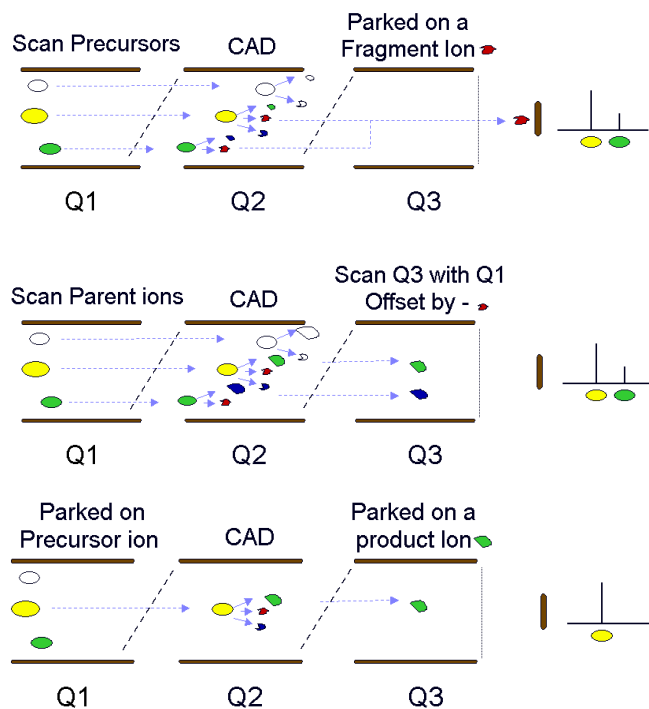

Figure 4. Triple Quadrupole Scan Types. Top – Precursor Ion scan. Middle – Neutral Loss scan. Bottom – MRM scan.
The triple quadrupole functionality of this instrument allows analyte quantitation to be performed at very high specificity and sensitivity using Multiple Reaction Monitoring (MRM). MRM (also known as Single Reaction Monitoring, SRM) is the scan type with the highest duty cycle and is used for monitoring one or more specific ion transition(s) at high sensitivity. Here, Q1 is set on the specific parent m/z (Q1 is not scanning), the collision energy is set to produce the optimal diagnostic charged fragment of that parent ion, and Q3 is set to the specific m/z of that fragment (Figure 2 and Figure 4, bottom). Only ions with this exact transition will be detected. Because of the speed of the LINAC[®] Collision Cell, many MRM scans can be looped together into one experiment to detect the presence of many specific ions in a complex mixture. Up to 4000 MRM transitions can be monitored within a single experiment and up to 500 MRMs can be monitored per second.
When an ion loses a diagnostic fragment as a charged fragment, it can be detected by using a Precursor Ion scan. In this scan type, Q1 is scanned across a mass range, and ions are fragmented in the collision cell. Q3 is set to transmit only the mass of the diagnostic fragment ion to the detector. Therefore, only ions that are passed through Q1 that fragment to produce the diagnostic charged fragment ion will be detected (Figure 4, top).
When an ion loses a diagnostic fragment as a neutral fragment, it can be detected by using a Neutral Loss Scan (NL). In this scan mode, Q1 is scanned across a specific mass range. Ions are passed into the collision cell Q2 where they are fragmented. Q3 is scanned over a similar mass range, offset by the neutral mass of the diagnostic fragment. Therefore, any molecule being passed through Q1, which loses a neutral molecule of the defined mass will then be transmitted through Q3 and detected (Figure 4, middle).